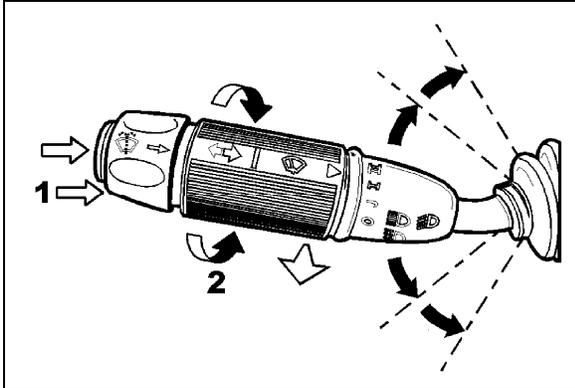

FIGURE 30: MULTIFUNCTION LEVER 23133
Turn the multifunction lever forward to activate windshield wipers (item 2, fig. 30). The first position operates the wipers at low speed and the second position operates the wipers at high
The windshield washer pumps are electrically operated and are controlled by a washer control ring on the multifunction lever (item 1, fig. 30).